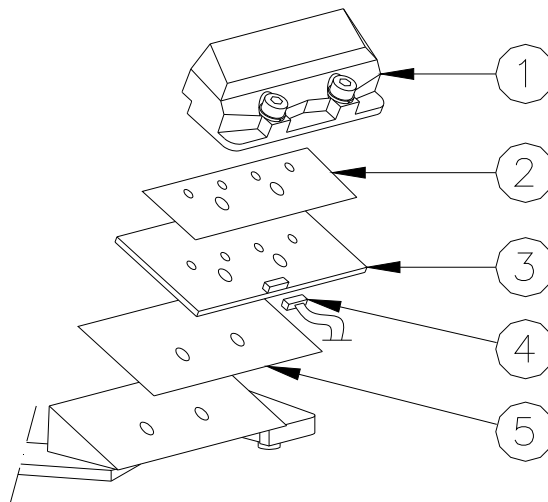

Figure 21 – LED Module Replacement
- disconnect the power supply connector from the LED module (Figure 21 – n°4)
- remove the LED module (Figure 21 – n°3) and reflector (Figure 21 – n°1) from the mounting plate unscrewing the two HSCS M3x12 screw
- check that the thermal interface (Figure 21 – n°5) is placed under the LED module and positioned properly
- check that the Kapton insulating sheet (Figure 21 – n°2) is placed over the LED board and is lying down and right-positioned
- reconnect the power supply connector (Figure 21 – n°4) to the LED module